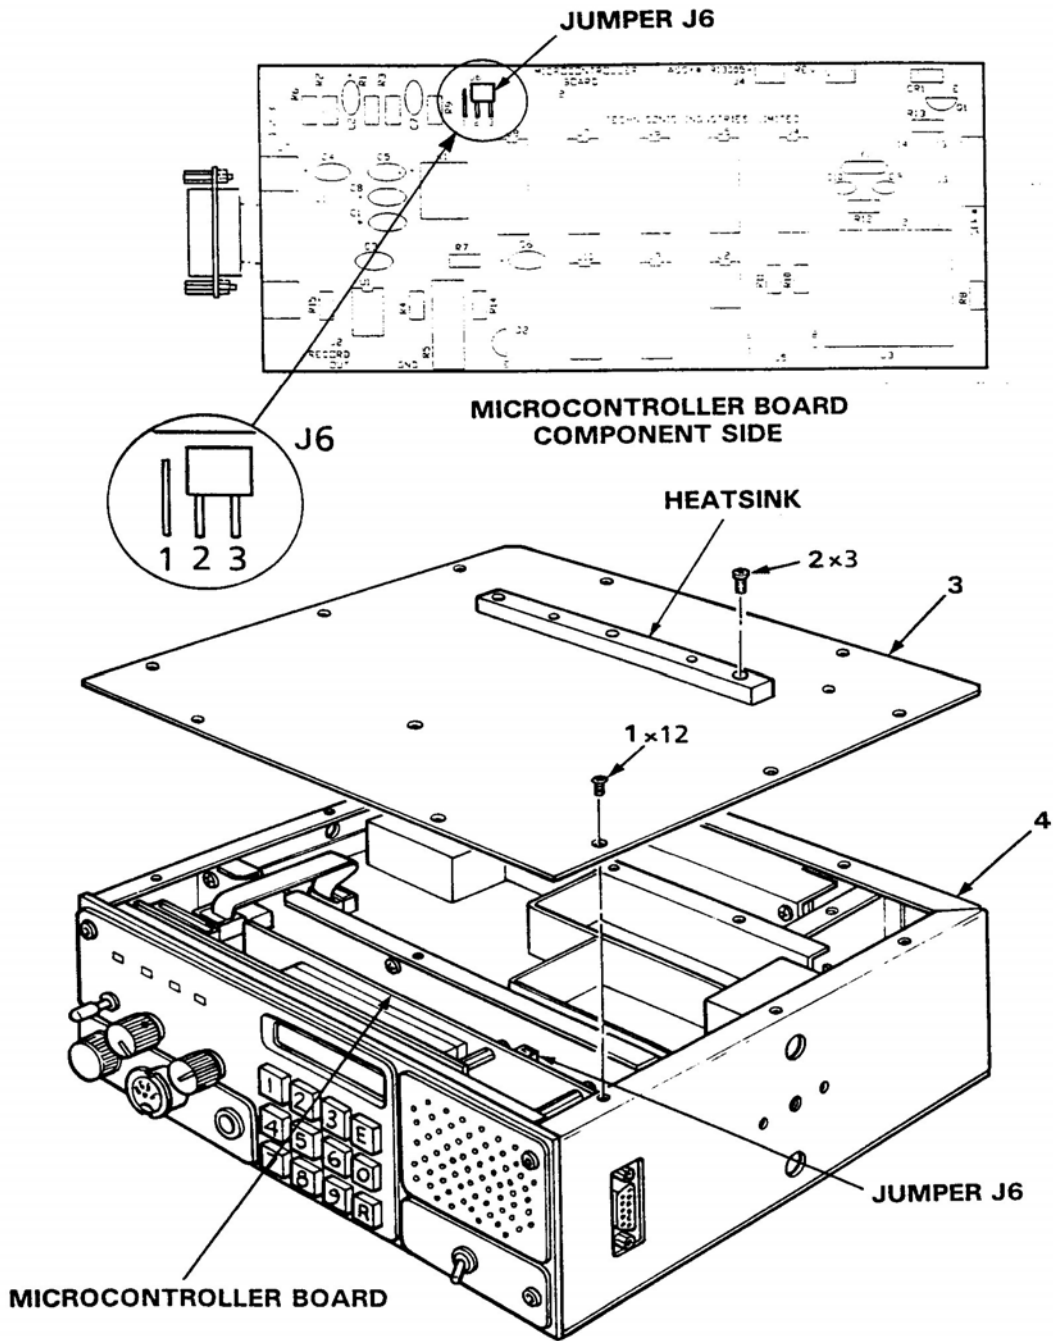

FIGURE 3.3 Fixed Channel Jumper Locations
- (1) Refer to Paragraph 2.2.1 for Transceiver installation and removal procedures.
- (2) Remove and retain 12 flathead screws (1) and 3 Panhead screws (2) securing transceiver top cover (3) to chassis (4). Refer to Figure 3.3.
- (3) Position Jumper J6 on pin 1 and pin 2 to disable keyboard entry of frequency selection and lock operating configuration.
- (4) Position Jumper J6 on pin 2 and pin 3 to enable keypad frequency selection and unlock operating configuration.
- (5) Position Transceiver Cover (3) on Chassis (4). Ensure that cover holes are aligned with threaded inserts.
- (6) Position 12 flathead screws (1) and 3 Panhead screws (2) through cover (3) holes into chassis (4) threaded inserts. Tighten screws with fingers.
- (7) Tighten screws securing Transceiver Cover (3) to Chassis (4).
- (8) Refer to paragraph 2.2.1 for Transceiver installation and removal procedures.